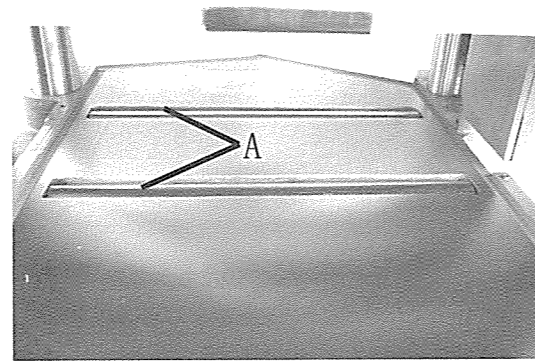

Fig. 11
Your planer is supplied with two table rollers (A) Fig. 11, which aid in feeding the stock by reducing friction and turn as the stock is fed through the planer. It is not possible to give exact dimensions on the proper height setting of the table rollers because each type of wood behaves differently.